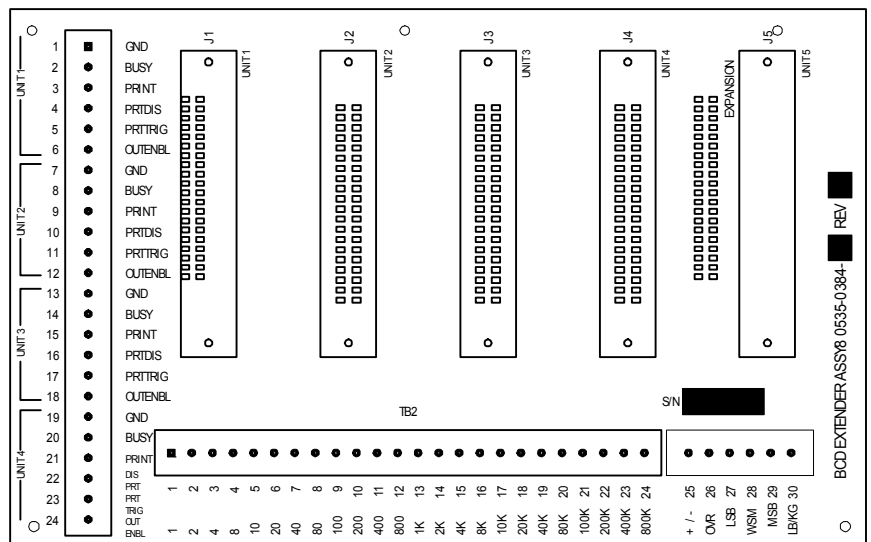

FIG. 3-12 BCD QUAD TERMINATION BOARD OPTION
- BCD Termination Board Installation Procedures (See Fig. 3-12)